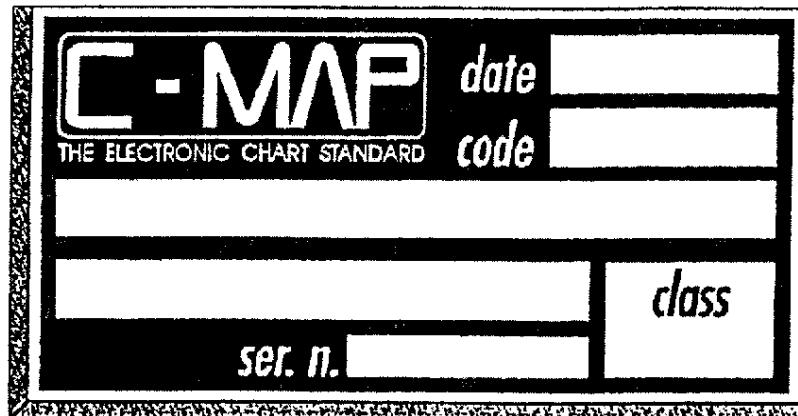

Fig. 2.4 - C-MAP NT C-CARD
- Hold the C-CARD by the short smoothed side so that you can see the "C-MAP" label (see Fig. 2.4).